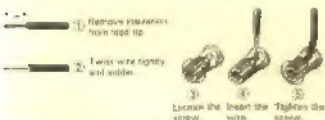

Fig. 3 Connecting Speaker Cords
1. Connect the left speaker to the LEFT SPEAKERS terminals and the right speaker to the RIGHT SPEAKERS terminals; refer to Fig. 3.